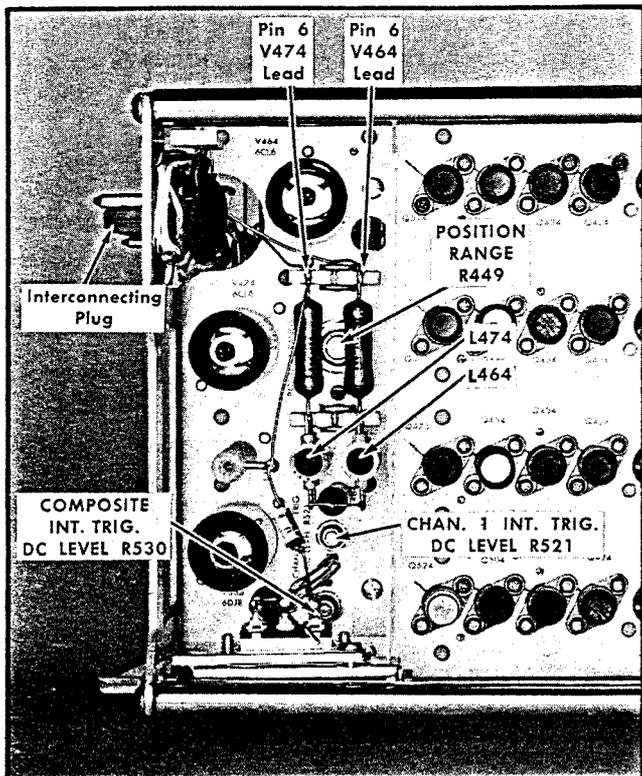

Fig. 7-2. Left side view, rear portion of the Type 3A74, showing location of test points, adjustments, and interconnecting plug.
- a. Using a small screwdriver, short the plates (pin 6) of V464 and V474 together. Fig. 7-2 shows the location of the pin 6 leads.
- d. With all the Type 3A74 POSITION controls set to mid-range and the MODE switches set to NORM., adjust the POSITION RANGE R449 control (see Fig. 7-2) to center all the traces as a group at the CRT electrical center.
- i. Connect the probe from the test oscilloscope to pin 6 lead of V464 (see Fig. 7-2).
- k. Connect the probe from the test oscilloscope to pin 6 lead of V474 (see Fig. 7-2) and check that the calibrator waveform displayed on the test oscilloscope is 40 volts peak to peak, within a tolerance of 2 volts.